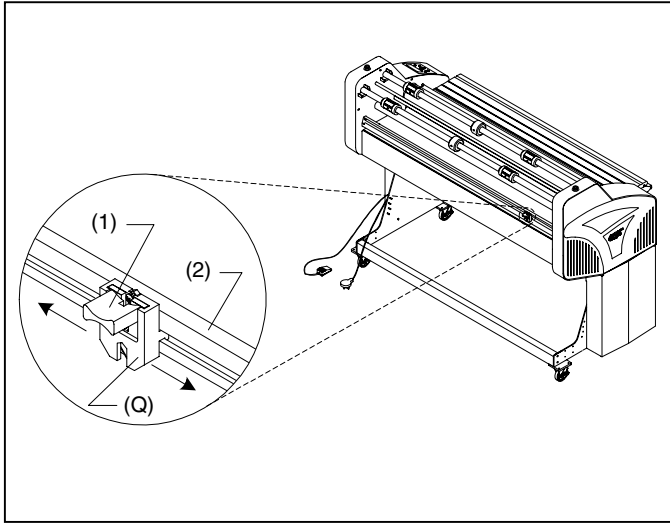

Fig. 19
**Q. REAR SLITTER:** (Figure 19) Used to cut the film web where it exits the rear of the laminator.